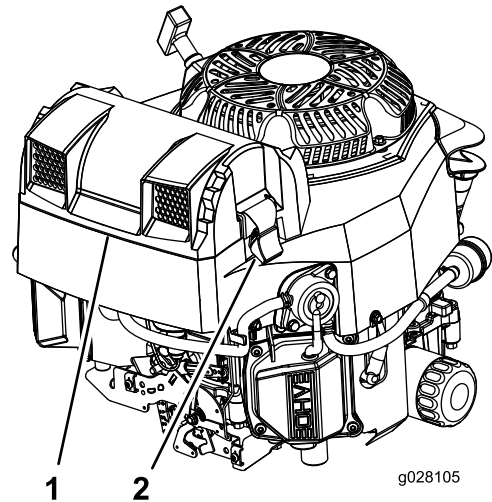

Figure 52
2. Remove the cover to access the air-cleaner elements (Figure 52).
3. Install the cover, and secure it with the latches (Figure 52).